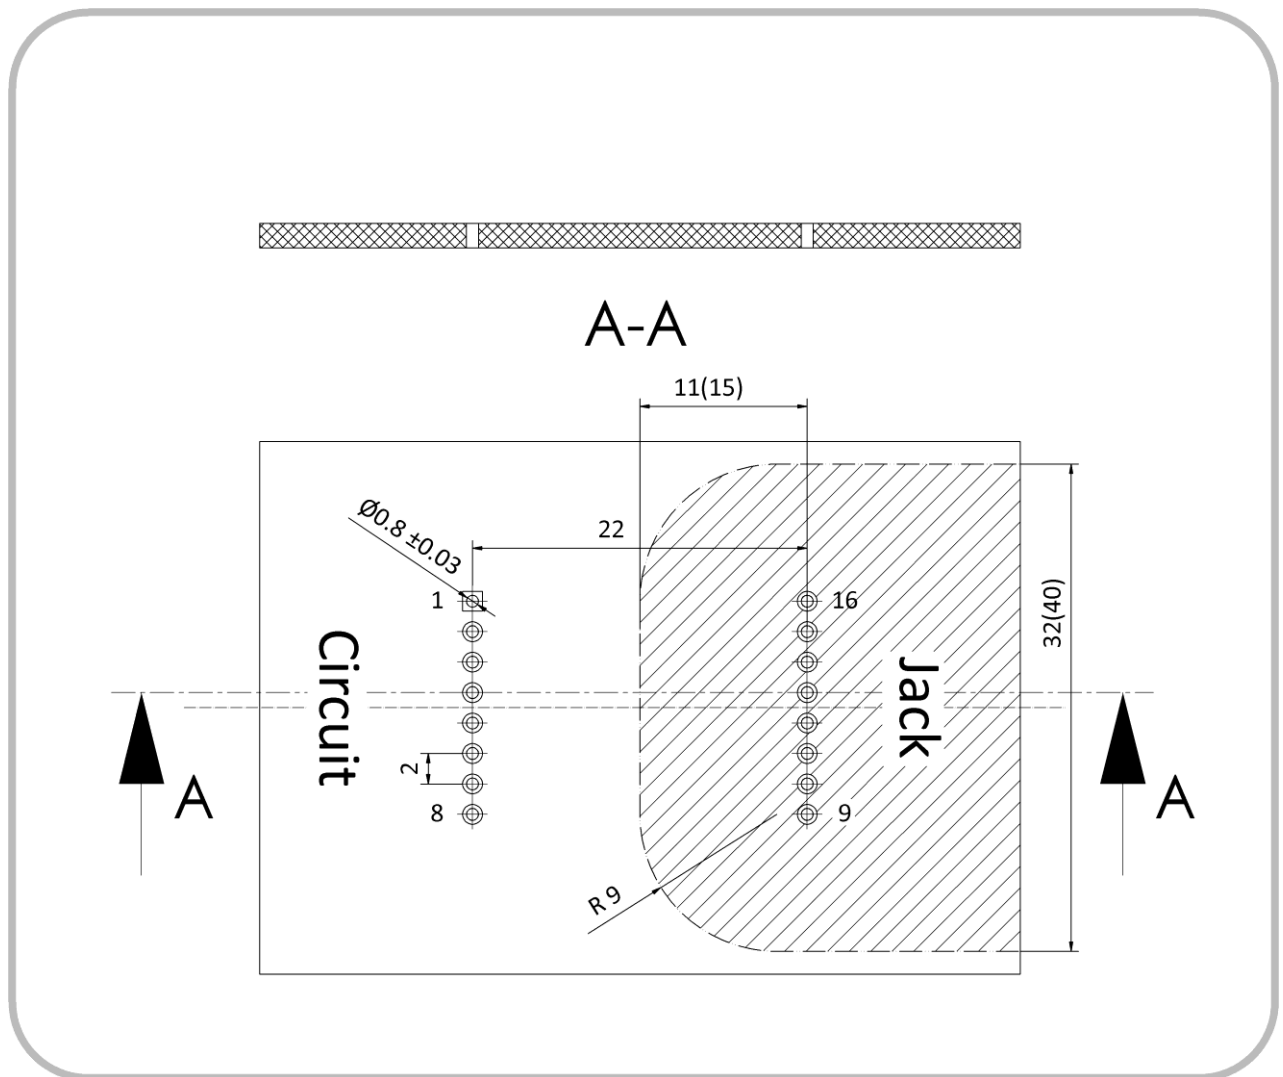

Figure 3. Suggested PCB layout for the EN-100T.
The dimensions of the hatched area are based upon requirements for realising two means of patient protection (MOPP) for medical electrical (ME) devices. For such ME applications, those with operating voltages of up to 250 V AC require the dimensions indicated in Figure 3 to be met or exceeded, and those with operating voltages of up to 400 V AC require the dimensions indicated in parentheses in Figure 3 to be met or exceeded.